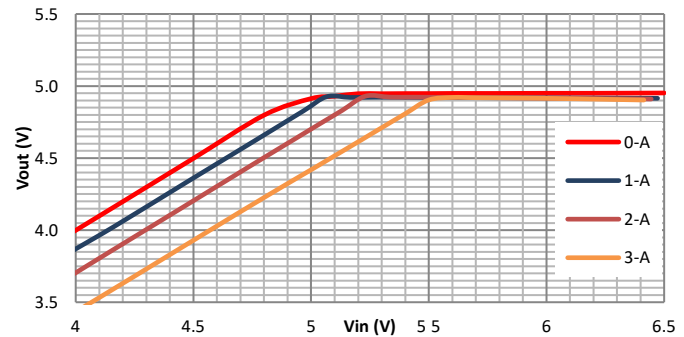

Figure 12. FC2332 LDO Mode Waveform
An internal 1.5uA pull up current source connected from internal LDO power rail to EN pin guarantees that floating EN pin automatically enables the device. For the application requiring higher VIN UVLO voltage than the default setup, there is a 4uA hysteresis pull up current source on EN pin which configures the VIN UVLO voltage with an off-chip resistor divider R3 and R4, shown in Figure 12. The resistor divider R3 and R4 are calculated by equation (1) and (2).